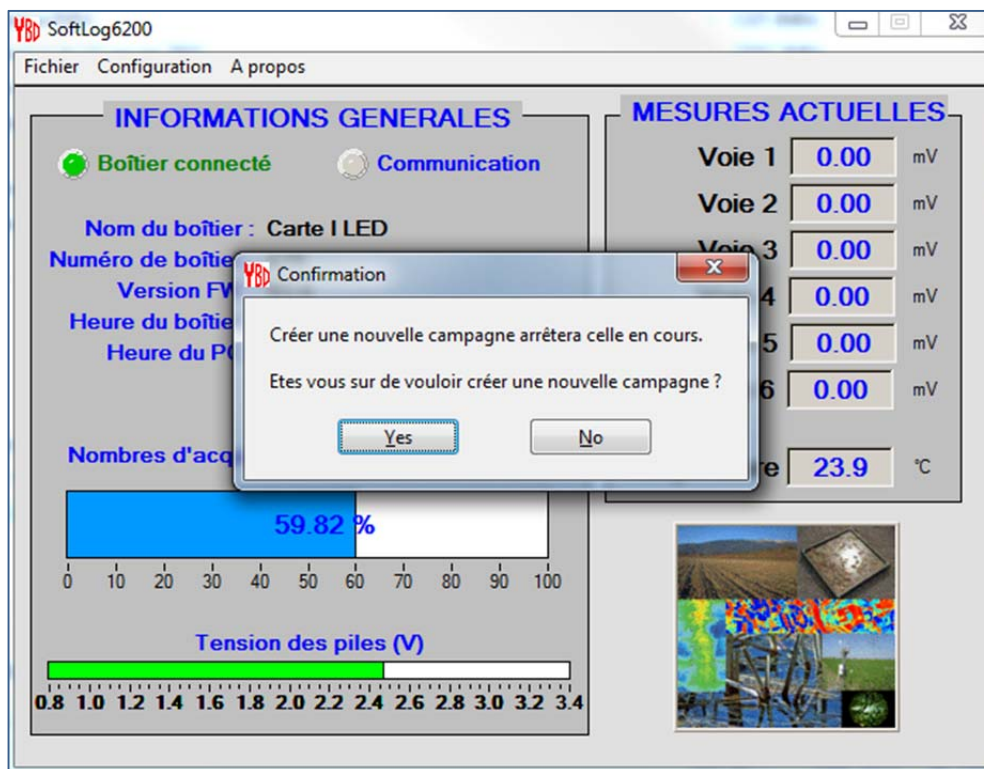

Figure 8. Launching a data acquisition campaign: confirmation
7. A window opens and reminds that launching the data acquisition campaign will delete all the data already in the system (Figure 8). Confirm your choice by selecting “yes” (“no” will cancel the operation)